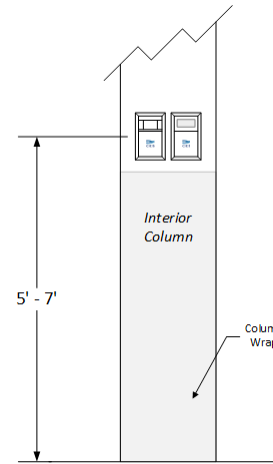

Figure 1. Interior Column Installation
It is important that the sensors are not obstructed by shelving or product as this will negatively influence the accuracy of the readings. *See Figure 1.*
**NOTE:** For all applications, to accurately calculate and control the space dew point, the space humidity sensor and temperature sensor must be mounted together as close to the same height as possible. *See Figure 1 and 2.*